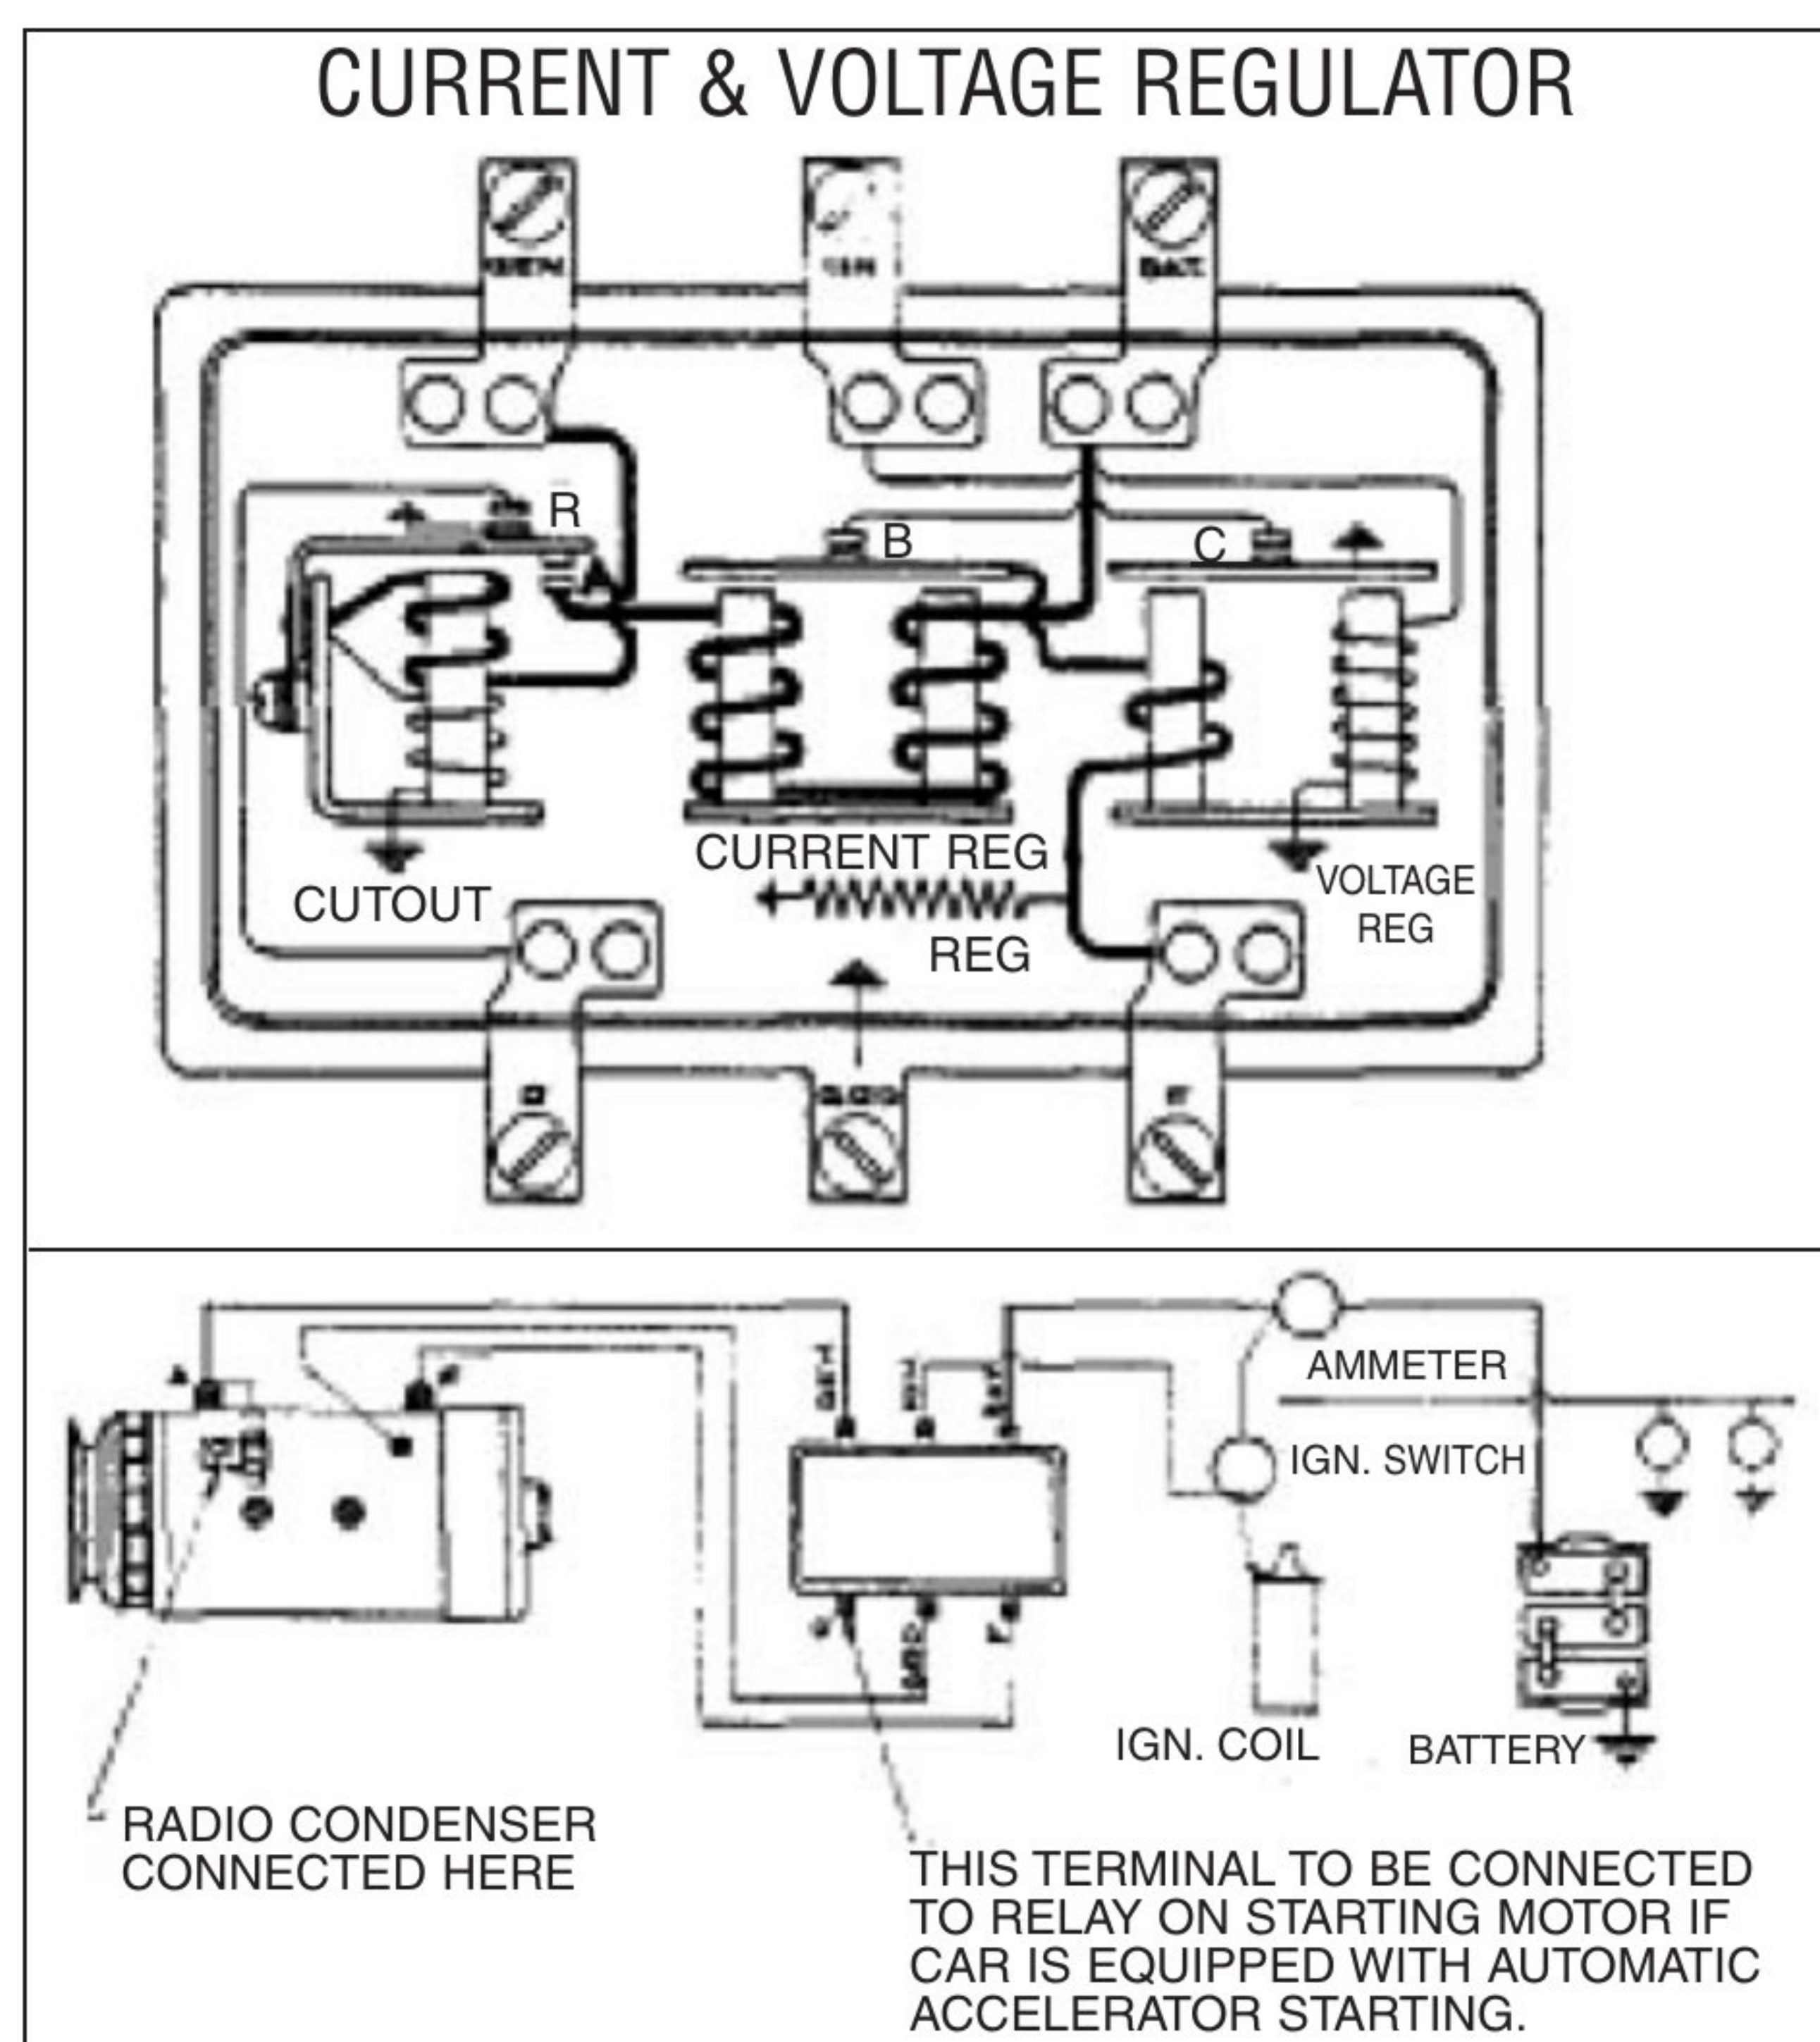

Figure 7—Diagram: Current and voltage regulator circuits and wiring
- (b) The use of a separate current regulator unit in the Delco-Remy regulator serves to double the life of the contact points used. The operations of the regulator, over an extended period of six months or a year, will be about equally divided between the voltage regulator unit and the current regulator unit (Figure 7, page 20).